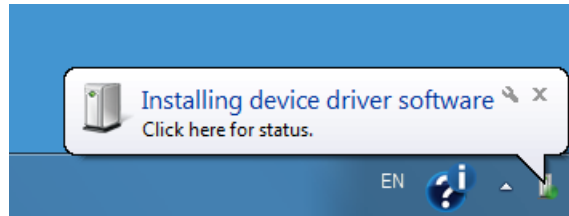

Figure 4.3.: Windows notification indicating device installation.
2. Connect your new Artec 3D scanner to the computer and wait until Windows detects the device and installs the necessary drivers. You may see a notification similar to one shown in *Figure 4.3.*